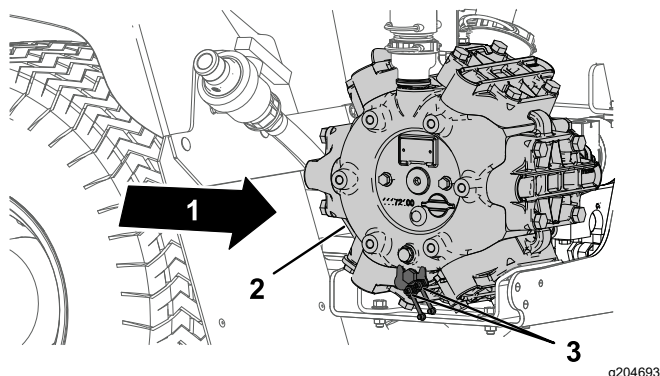

Figure 102
1. Wipe the 2 remote grease fitting clean (Figure 102).
2. Pump grease into the remote grease fitting (Figure 102).